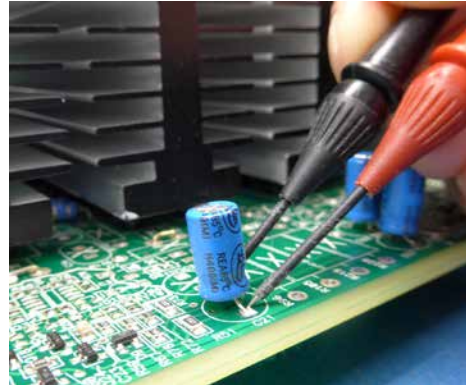

Figure 5.11 - Measuring the DC voltage
- The DC voltage measurement can be taken from the top of the PCB. Never take the measurement with signal applied. See Figure 5.11 for a measurement of one bias capacitor.